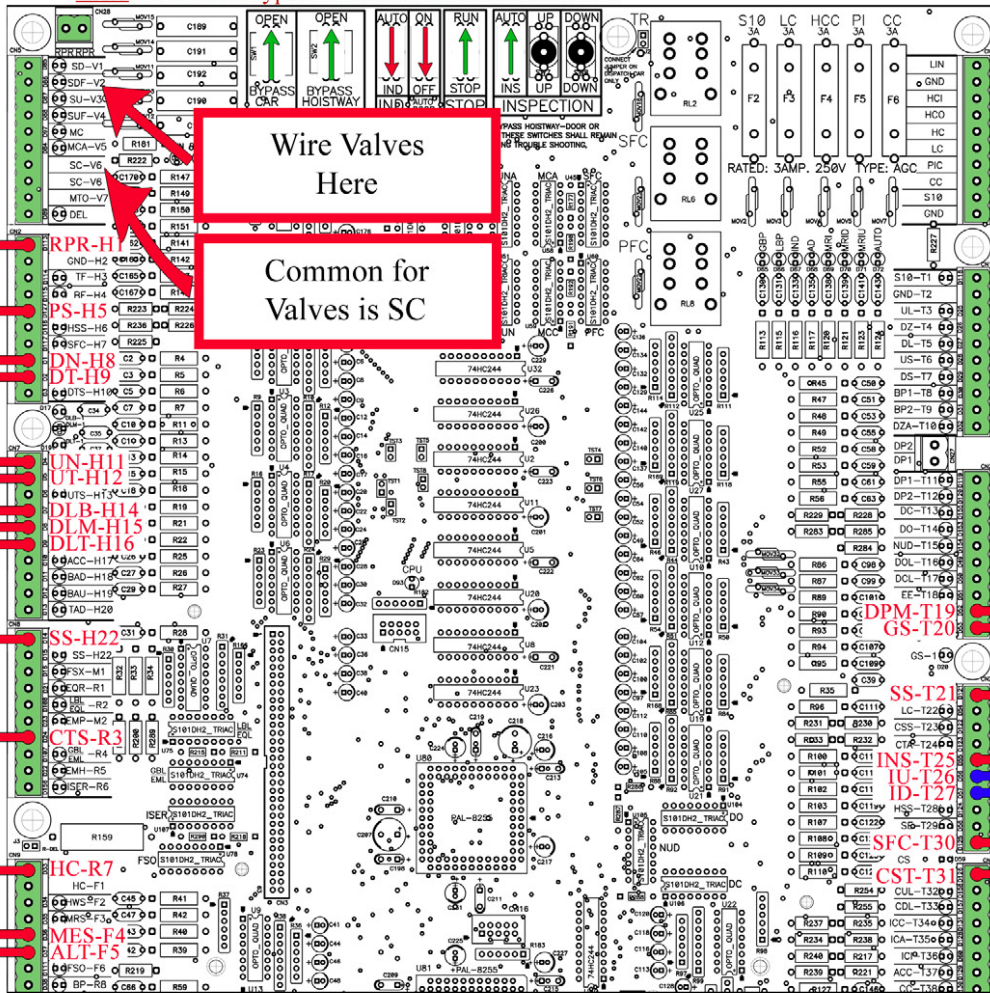

Figure 1
2. Add Jumpers and Set Switches on main I/O board GALX-1039AN as shown in Figure 1.